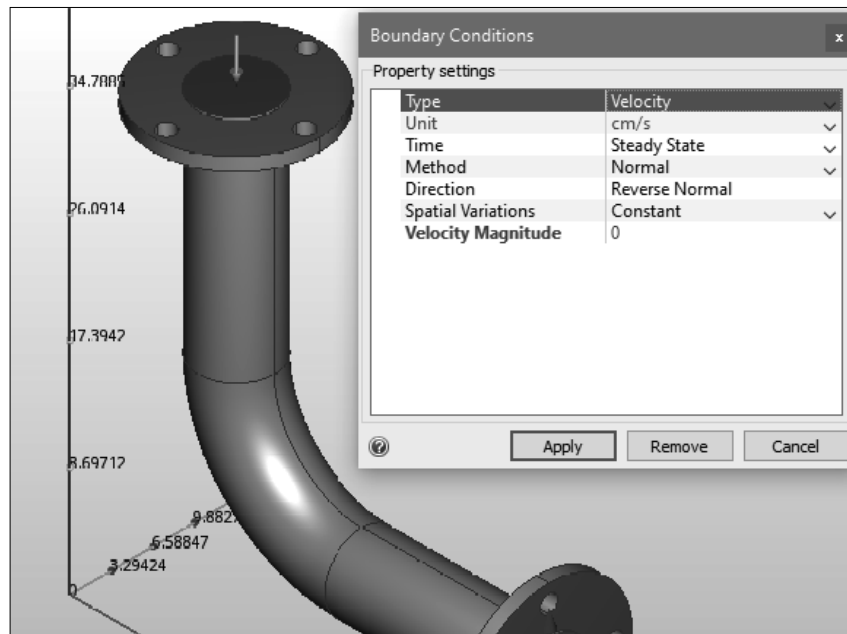

Figure-25. Boundary Conditions dialog box after selecting face
- Click on the **Edit** button from displayed menu. The **Boundary Conditions** dialog box will be displayed; refer to Figure-25.